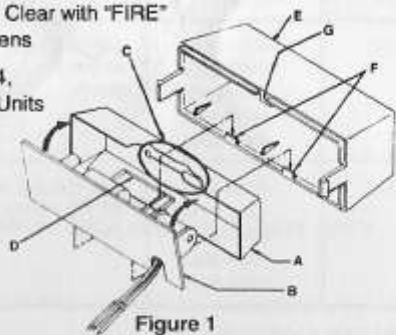

Figure 1
1. Attach the reflector (A) to the Flasher Printed Circuit (PC) Board (B) by lining up the reflector's cut-out (C) with the flash tube (D) and then pushing the reflector behind the tube. **DO NOT TOUCH FLASH TUBE WITH YOUR FINGERS.** See Figure 1.
2. Insert the Flasher PC Board with reflector inside the lens (E) by placing the Flasher PC Board behind the lens' two bottom tabs (F) and then snapping the Flasher Board onto the top tab (G). See Figure 1.